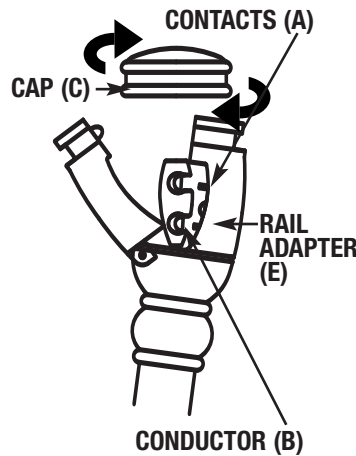

FIGURE 2
2. Unthread cap (C) from rail adapter (E).
3. Making sure contacts (A) will align with conductors (B) on rail, set the bottom of rail adapter (E) to the bottom of the rail and “roll” rail adapter (E) up onto the rail (Fig. 2).
4. Close the hinged door of rail adapter (E) over the rail and thread cap (C) back onto rail adapter (E).